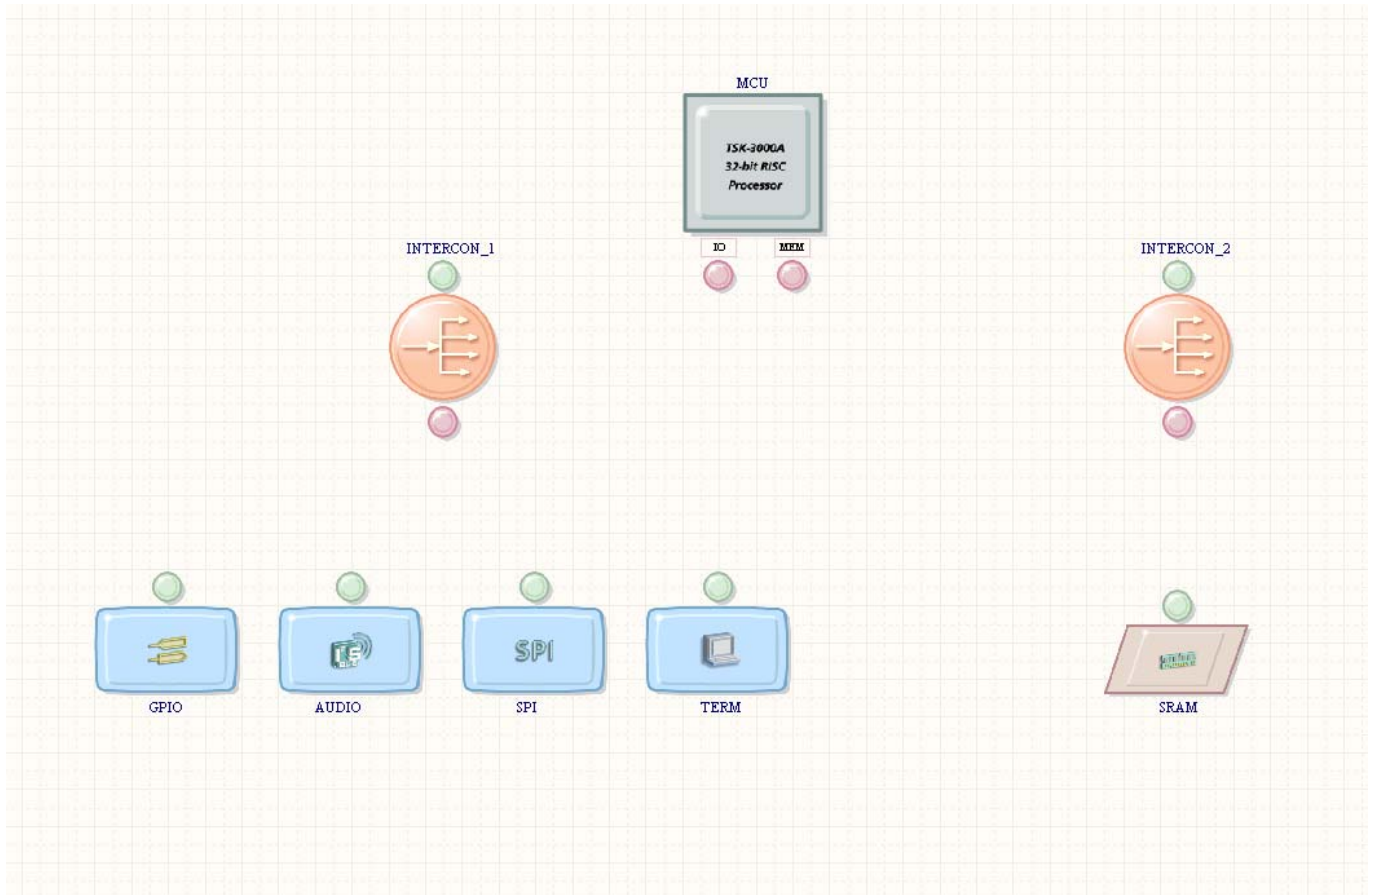

Figure 2. OpenBus components required by the design
5. Continue placing the components indicated in Table 1 as per the OpenBus diagram in Figure 2.
3. Edit the names of the components to match Figure 2.